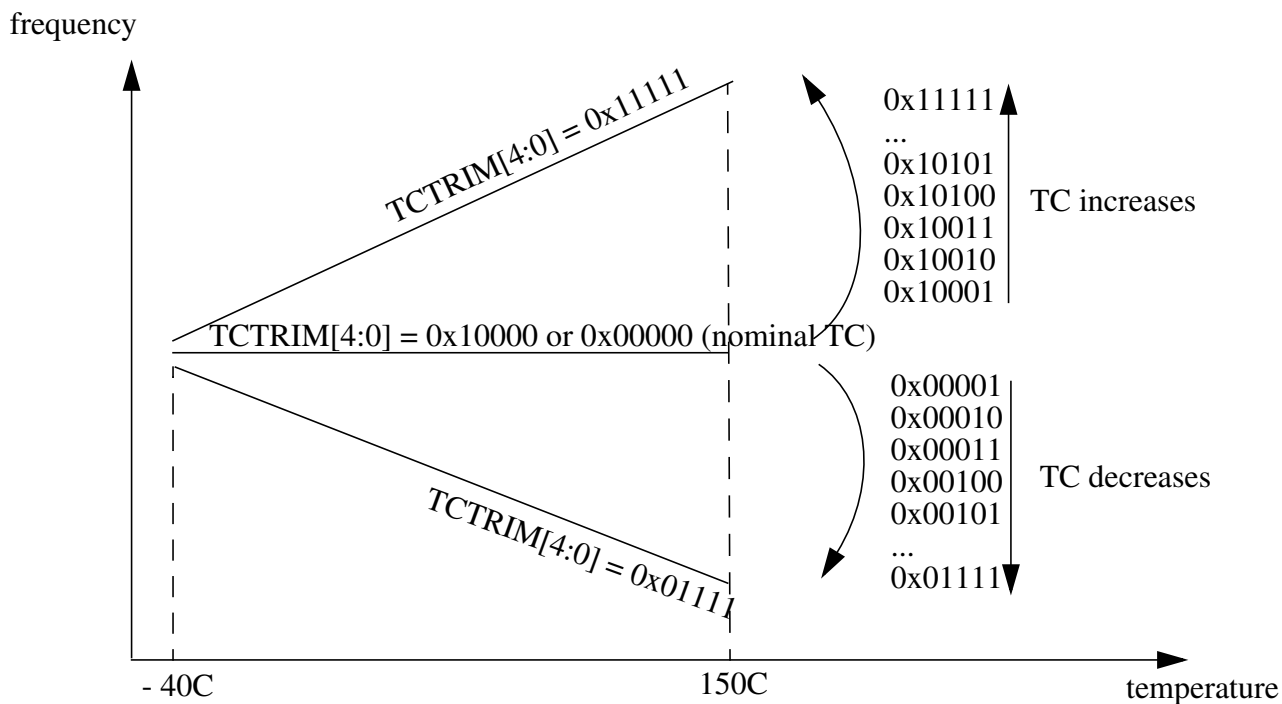

Figure 4-29. Influence of TCTRIM[4:0] on the Temperature Coefficient
| 15-11TCTRIM[4:0] | IRC1M temperature coefficient Trim BitsTrim bits for the Temperature Coefficient (TC) of the IRC1M frequency.<a href="#">Table 4-26</a> shows the influence of the bits TCTRIM[4:0] on the relationship between frequency and temperature.<a href="#">Figure 4-29</a> shows an approximate TC variation, relative to the nominal TC of the IRC1M (i.e. for TCTRIM[4:0]=0x00000 or 0x10000).                                                                                                                                                                                                                                                                                                                                                                                                                                                |